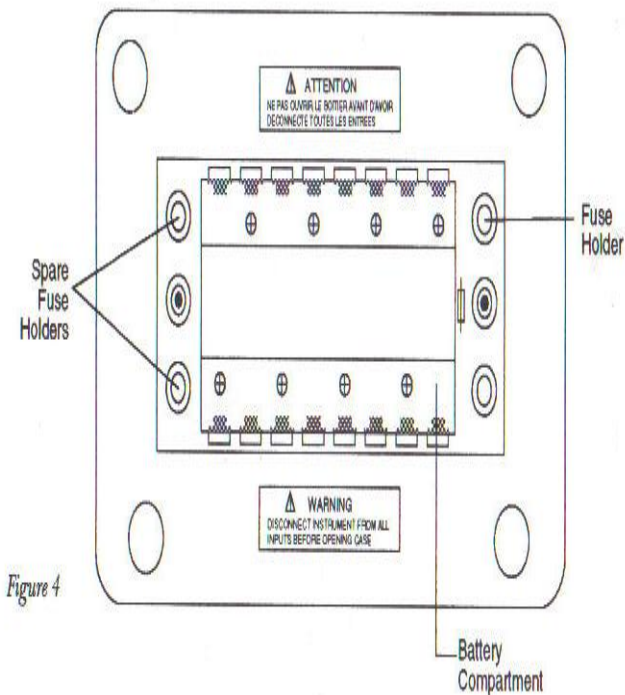

Figure 4
- Remove the battery compartment cover to gain access to the fuse holder (See Figure 4).
- Replace the fuse with the appropriate replacement (Figure 4) and reassemble the instrument.